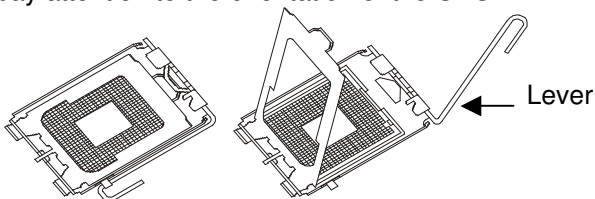

Figure 3: LGA775 CPU Socket
1. Check and confirm that you are going to install correctly CPU type and pin numbers (Figure 3).